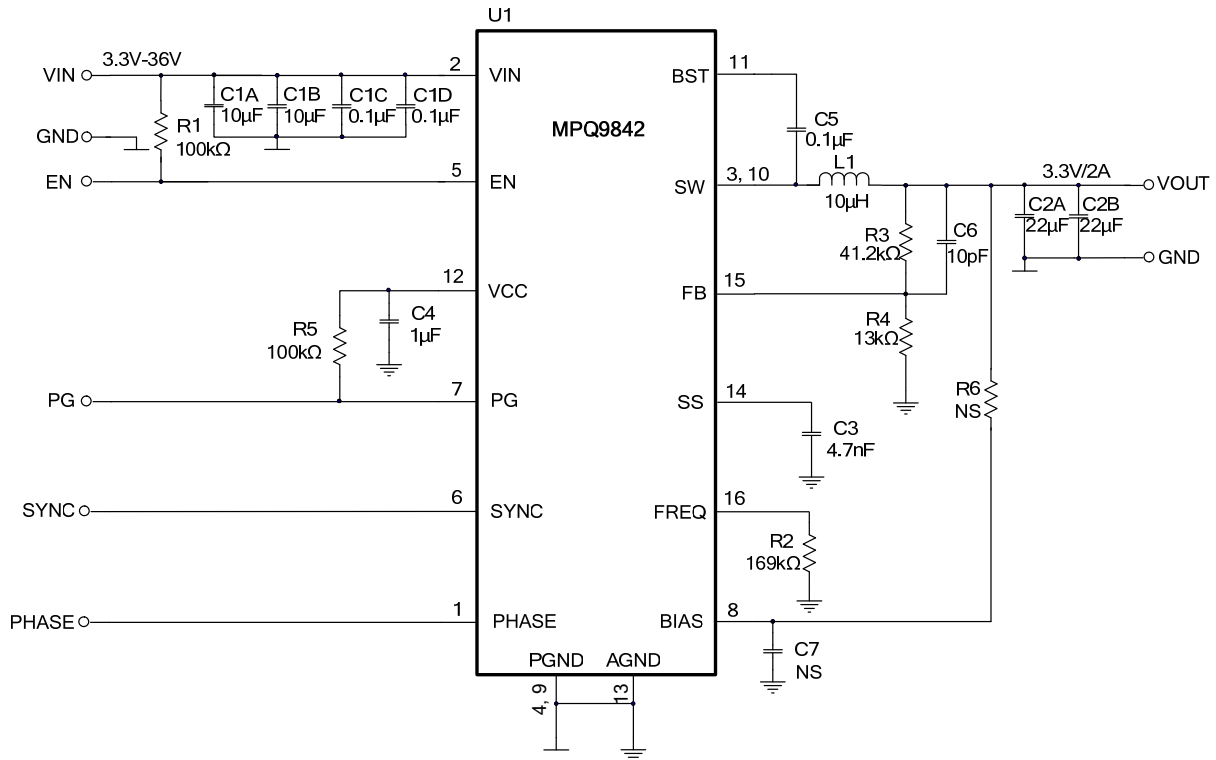

Figure 8: $V_{OUT} = 3.3V$, $F_{sw} = 500kHz$
- 8) The recommended PCB layout is based on Figure 8.